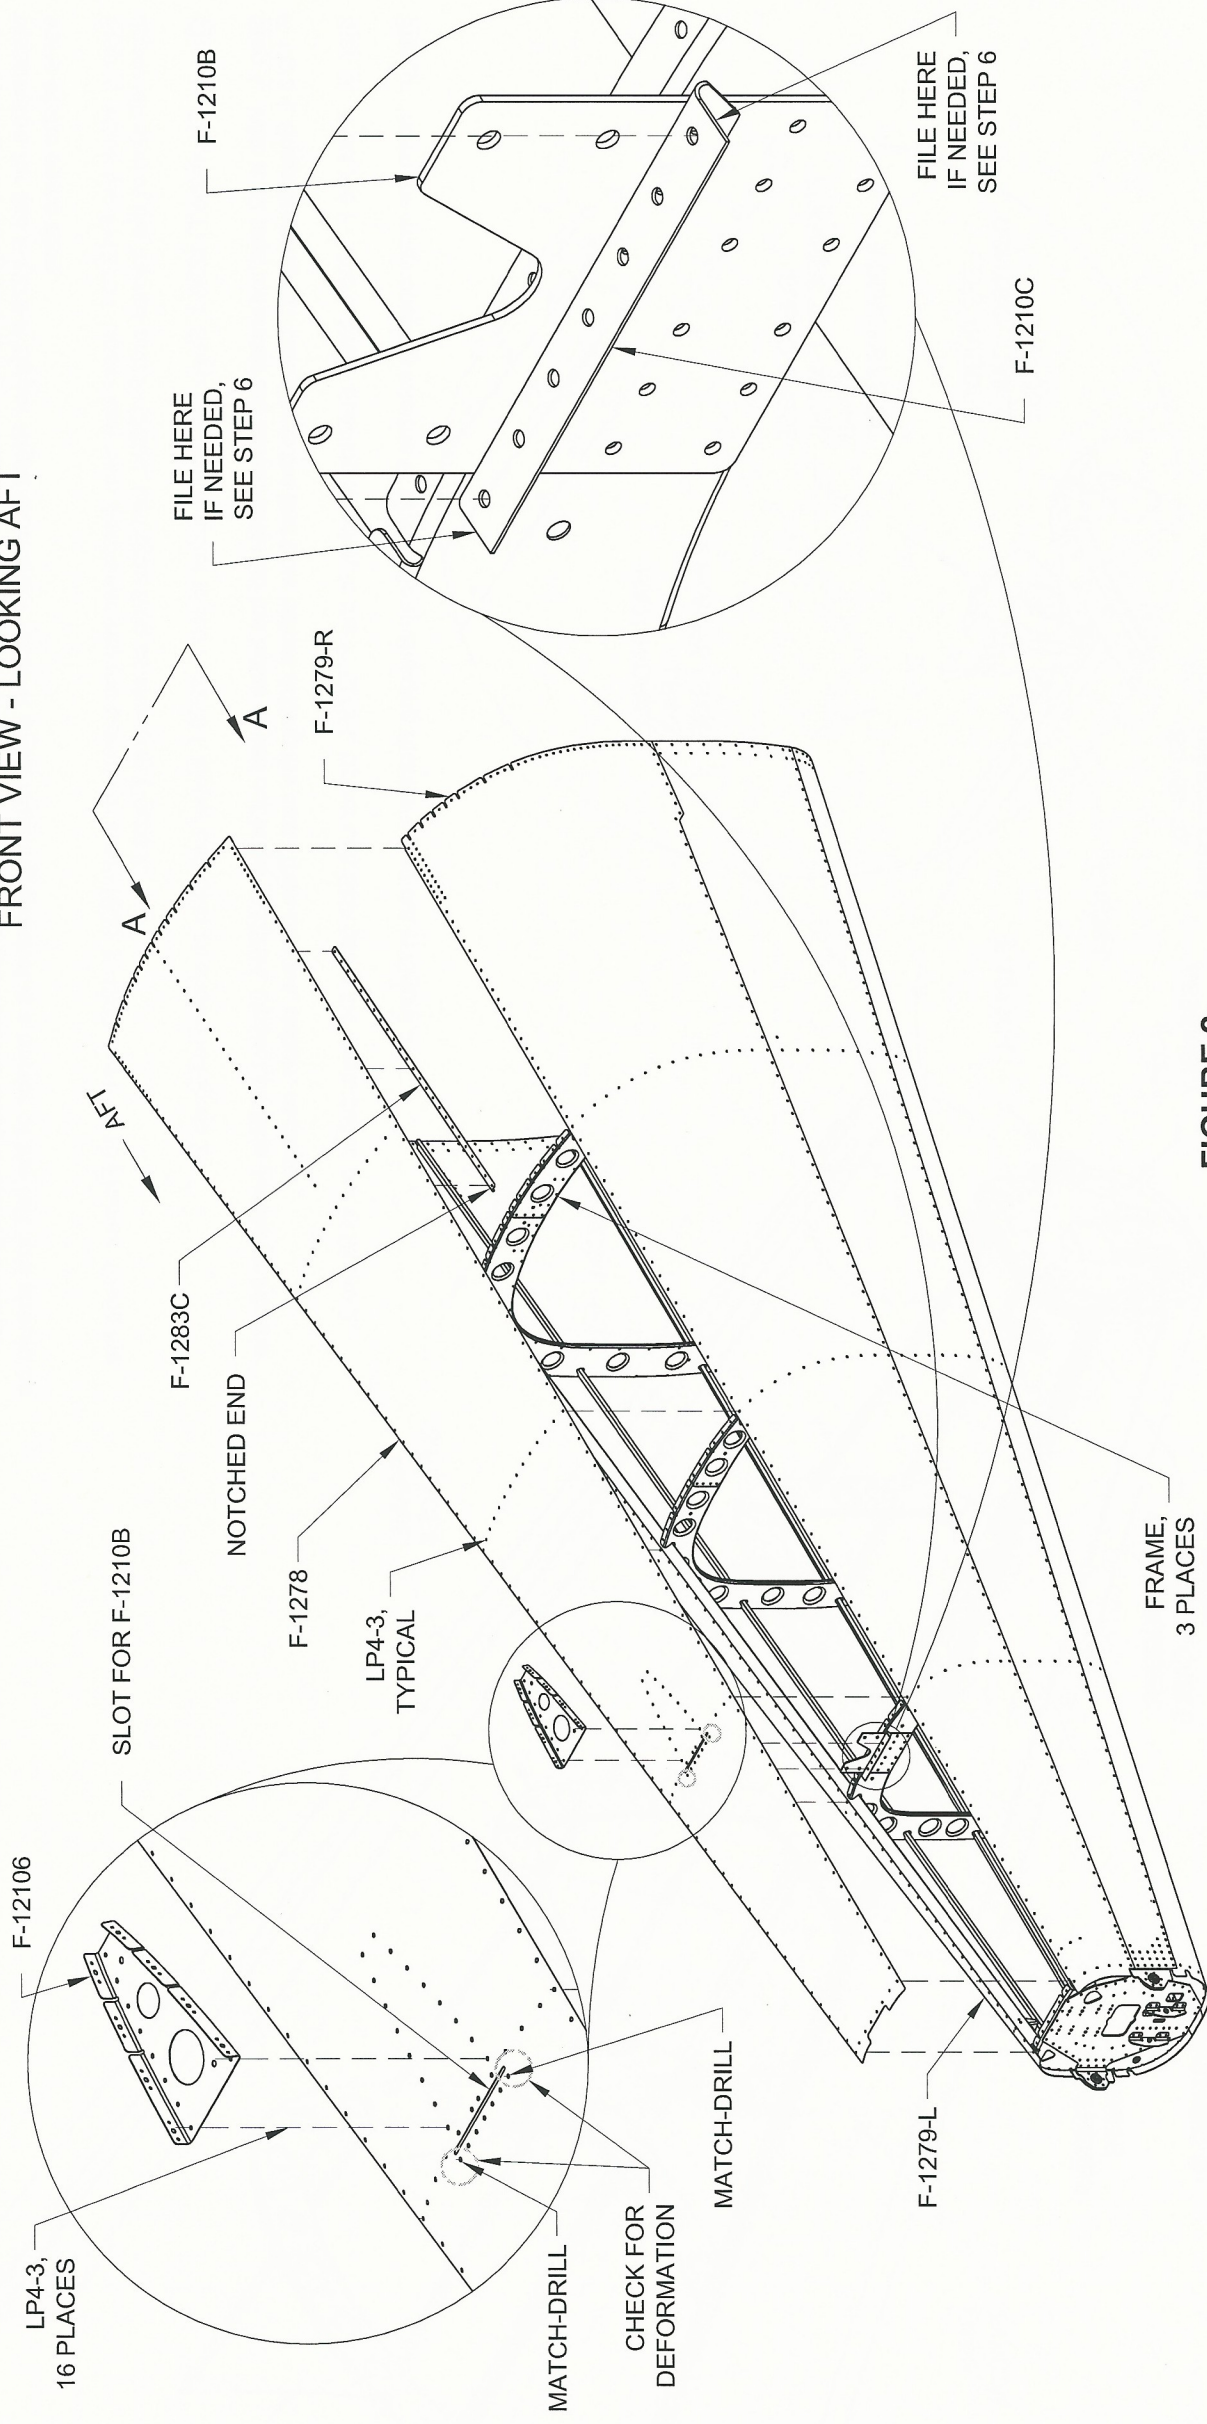

FIGURE 2:
- Step 6: Guide the F-12106 Plate through the slot in the F-1278 Top Skin. Cleco the Top Skin to the F-1210 Frame. Match-Drill #30 the two outboard-most holes in the F-1210C Angle using the Top Skin as a guide. Check the top skin for deformations caused by the F-1210C Angle at the locations called out in Figure 2. Remove the top skin. Deburr the angle. If deformations were present in the top skin file material from the angle to minimize deformations on the top skin. Cleco the top skin to the F-1208, F-1209 and F-1210 Frames and F-1279-L & -R Upper Left and Right Skins as shown in Figure 2. Cleco the top skin to the F-1208, F-1209 and F-1210 Frames and F-1279-L & -R Upper Left and Right Skins as shown in Figure 2.
- Step 7: Rivet the F-12106 Fwd Skin Rib to the F-1278 Top Skin as shown in Figure 2.
- Step 8: Cleco, then rivet the F-1283C J-Stiffener to the F-1278 Top Skin as shown in Figure 2, Detail A-A.
- Step 10: Rivet all of the remaining, unmasked open holes in the Tailcone Assembly using rivets called out in Figure 2.